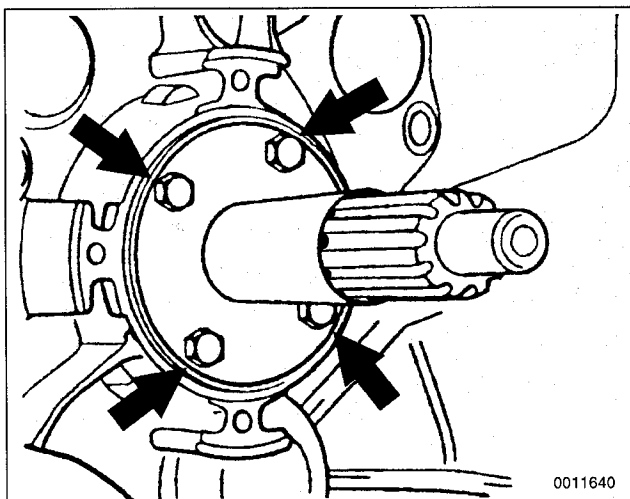

Fig. 8. Clutch release bearing guide sleeve bolts. (Getrag transmission shown).
2. Remove bolts for clutch release-bearing guide sleeve, noting bolt lengths. Remove sleeve and any spacers (shims) under it. See Fig. 8.